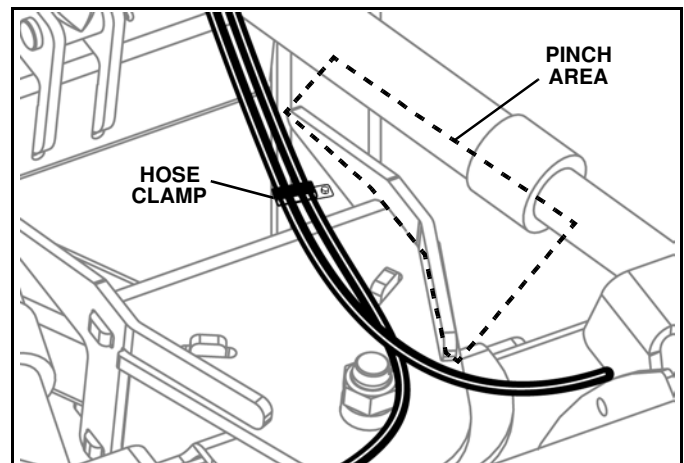

Figure 1-31
24. To prevent hoses from pinching between the left swing cylinder and A-frame when stacking, install a hose clamp (p/n 96112500) on the wing cylinder hose set and secure to the A-frame with a self-tapping screw (p/n 98100386) in the location shown. Ensure that hoses are free of pinching and binding through full vertical range of A-Frame movement. (See Figure 1-31).